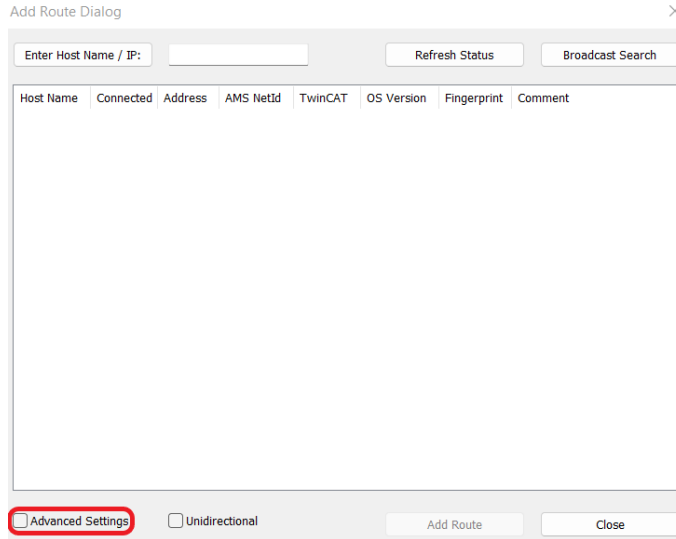

Figure 27: Static Routes – ‘Add Route Dialog’ window, basic settings
3. If this is the first time using the ‘Add Route Dialog’ window that opened, you will need to click on ‘Advanced Settings’ – highlighted in Figure 27 on the next page – to reveal additional settings you will need to change. If this is already enabled skip to the next step.